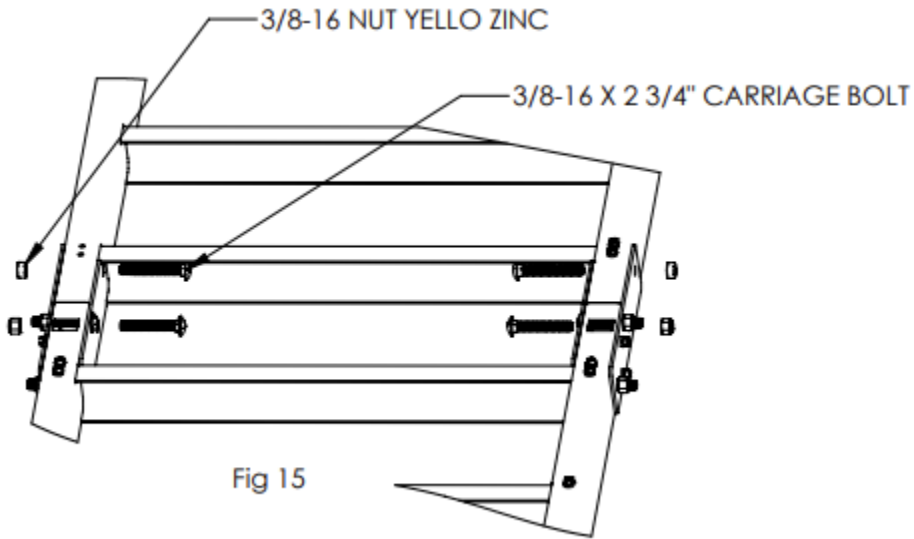

Fig 15
23. Assemble top and bottom ladder sections with 2 - 3/8 x 2 3/4" carriage bolts in the top holes on the splice plates and 2 - 3/8 x 2 1/2" carriage bolts in the remaining holes on the splice plate. Secure the 2 3/4" bolts with non-locking nuts and the other 2 carriage bolts with 3/8" nylon lock nuts. All of these nuts can be tightened now. (Fig 15)